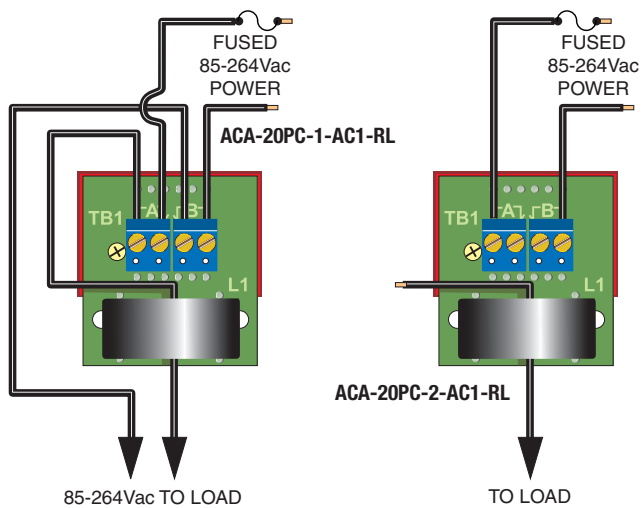

Figure 3. 2A and 20A, 85-264V AC-Powered Models
- ① The ACA-20PC-1-AC1-RL and ACA-20PC-2-AC1-RL have 4-position on-board terminal blocks. All other models have 2-position terminal blocks.
- ② Specified full-scale currents are those passing through the built-in CT's primary(load) circuit, over the frequency of 45-450Hz. The Overcurrent Rating is a continuous rating that applies to the measured ac load current. It does not apply to any circuitry external to the meter. Accuracy is guaranteed to the rated current.
- ③ For the ACA-20PC-2-AC1-RL, if the load is connected to the meter's on-board 4-position terminal block, the 20A full scale range requires 12AWG solid copper wire on all connections. If 14AWG solid copper wire is used, the current should be limited to 15A. See Figure 3.
- ④ All specified maximum power supply currents are steady-state values. AC-powered models can draw higher surges at initial turn-on.
- ⑤ Maximum reverse polarity protection on "DC1" models is –40Vdc.